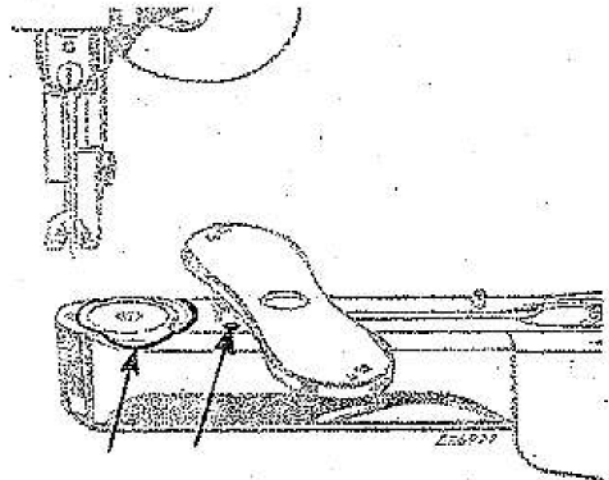
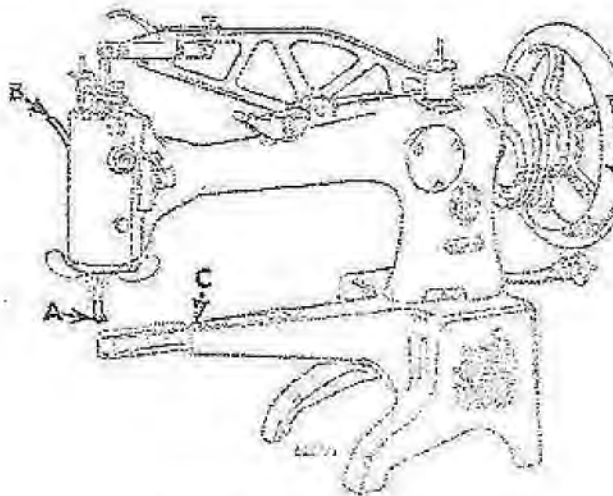
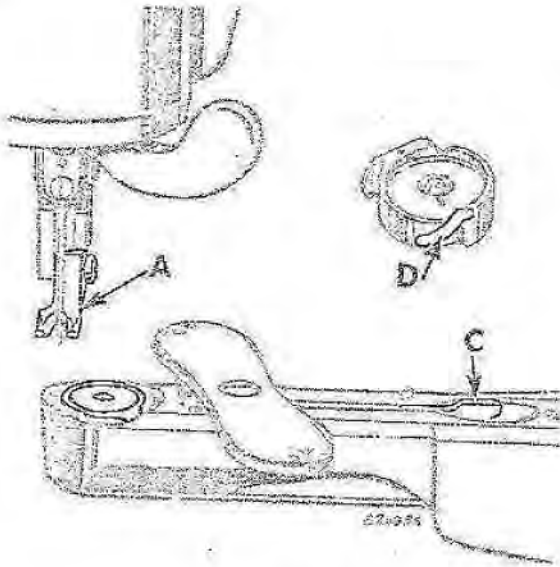

Fig. 4. Oiling Shuttle Race
Fig. 5. Operating Machine
Fig. 7. Tacking out the Shuttle.
To oil shuttle race, raise needle bar to its highest point and lift feeding foot A, Fig. 5 by moving lifter B upward.
Press down lever C, Fig. 5 and swing needle plate to position shown in Fig. 4.
Apply a drop of oil to the face of shuttle race and to the hole shown by arrow in Fig. 4.
1. Raise feeding foot A, Fig. 5 by moving lifter B upward.
Raise needle bar to its highest point and lift feeding foot **A**, **Fig. 7** by moving lifter **B**, **Fig. 5** upward.
Press down lever **C**, **Fig. 7** and swing needle plate around as shown.
move bobbin retaining spring **D**, **Fig. 7** outward before taking out the bobbin.